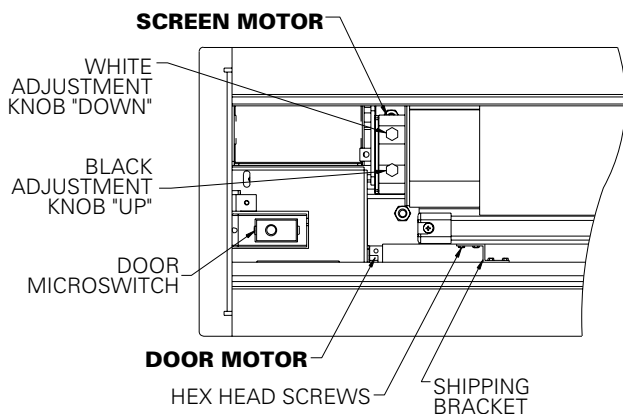

FIGURE 2
6. Remove shipping brackets by removing the hex head screws from aluminum slat and case. Slat should move freely. See figure 2. (Only if the roller assembly is preinstalled.)